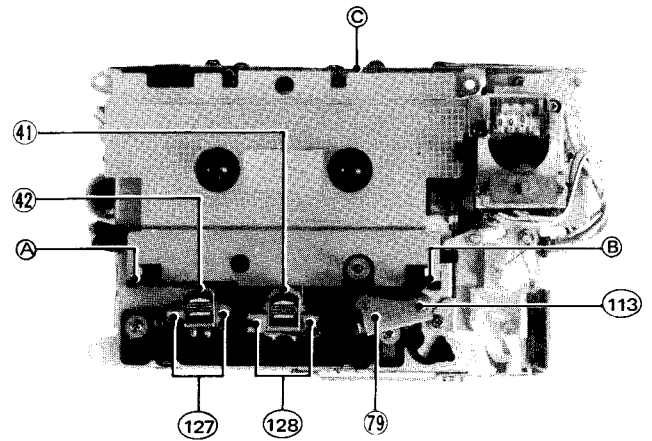

Fig. 32
Remove (A) (B) positions (in fig. 32) on the mold chassis, and then remove (C) position on the chassis.
4. Pinch roller arm ass'y (79)